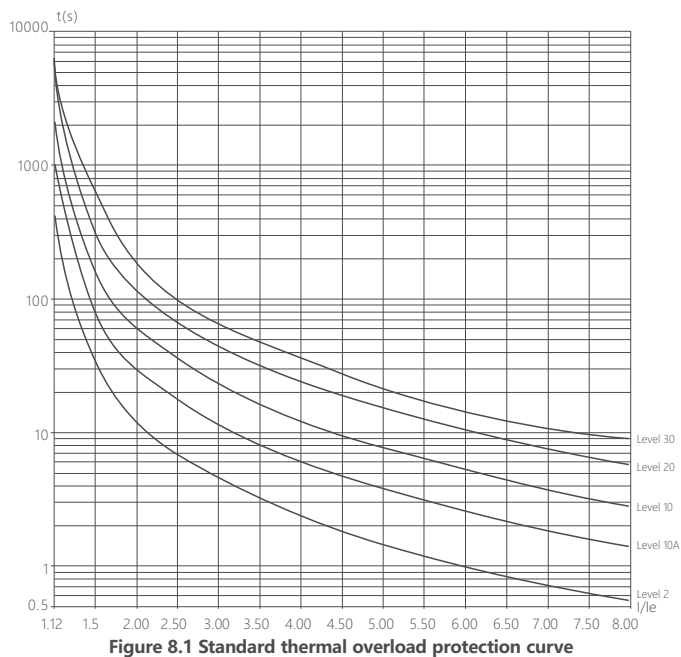

Figure 8.1 Standard thermal overload protection curve
8.3.8 Running Overload Protection Time: Reverse Time Thermal Protection Based on the Set Value of Code F07 or F19. The standard thermal overload protection curve is shown in Figure 8.1, and the typical value is shown in Table 8.4.